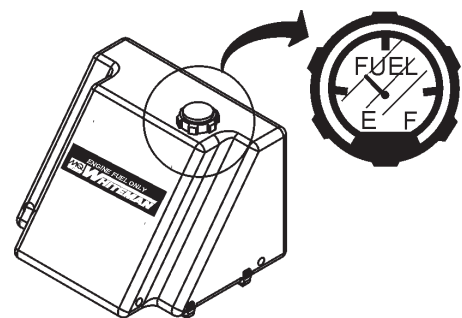

Figure 12. Fuel Gauge
Determine if engine fuel is low (Figure 12). If the fuel level is low, remove the fuel filler cap and fill with gasoline with a minimum octane rating of 87.
5. Turn the ignition key clockwise to the **ON** position. The Aux1, Aux 2, Coolant Temp and Oil Indicator lamps will light for 10 seconds (Figure 12). The Charge Indicator lamp will remain lit until the engine starts.